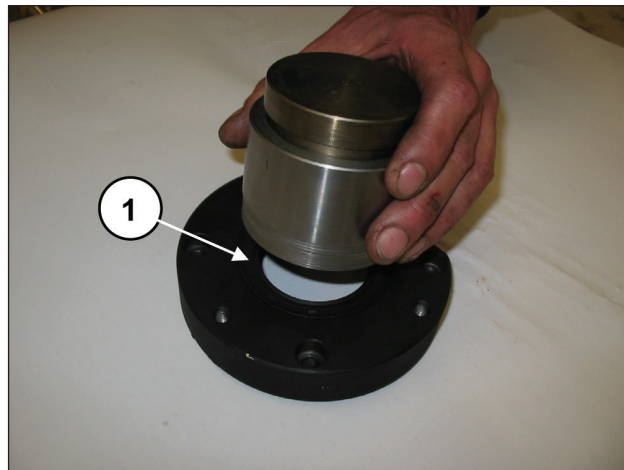

Fig. 64
Insert the radial seal ring into the PTO bearing cover using the tool code 27548200 (pos. ①, Fig. 64).